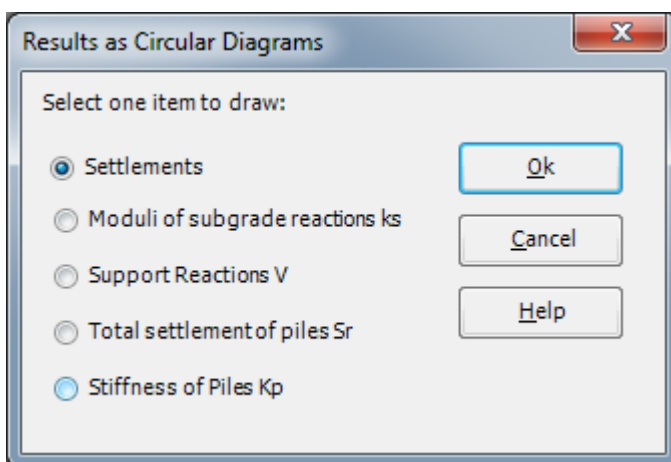

Figure 11.37 "Results as circular diagrams" option box
- Choose "Circular Diagrams" command from "Result" menu. The following option box in Figure 11.37 appears